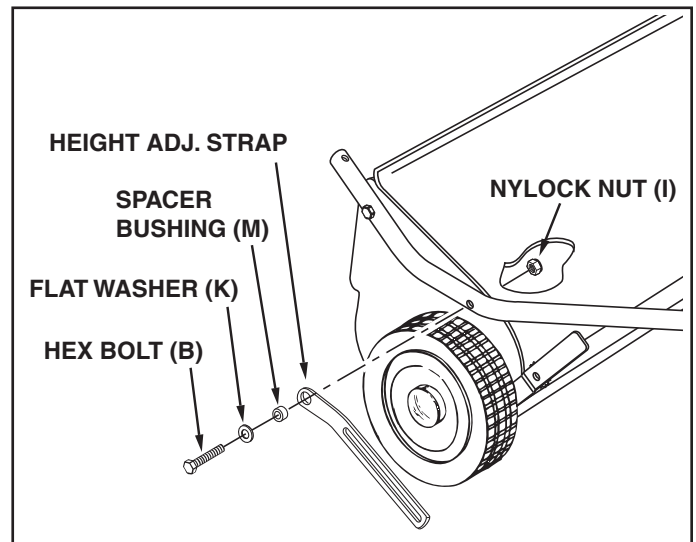

FIGURE 6
- Attach the height adjustment strap to the hitch tube using a hex bolt (B), the spacer bushing (M), a flat washer (K) and a nylock nut (I). See figure 6. **Do not tighten yet.**